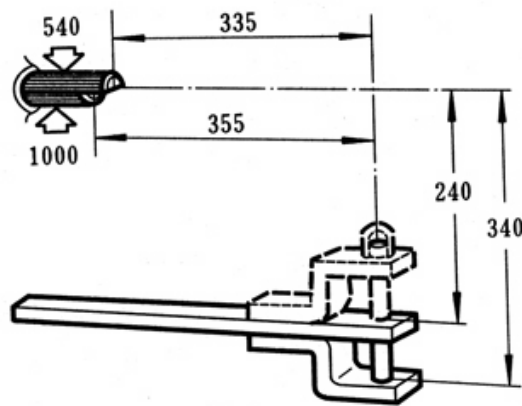

Fig.4-41 Towing fork position relative to PTO shaft
- (3) The towing fork position relative to PTO shaft (Fig.4-41).